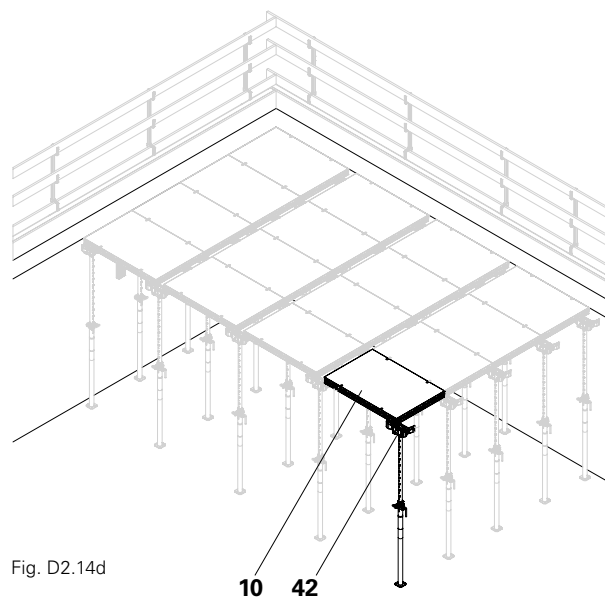

Fig. D2.14d
4. Erect the other DP panels (**10**) in the same way. (Fig. D2.14d)